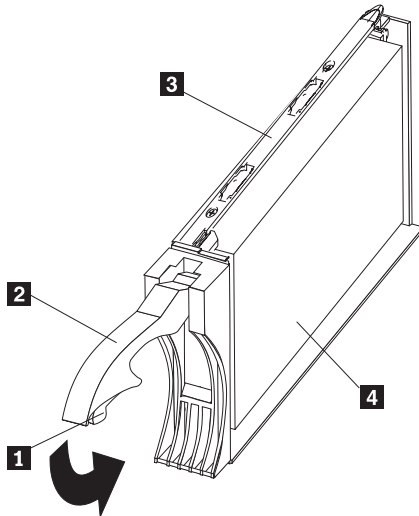

Figure 59. Releasing the drive latch
Note: The hard disk drive comes with a tray already attached. Do not attempt to detach the drive **4** from the tray **3**. See Figure 59 on page 76.
- a. Release the blue latch **1** on the drive CRU by pressing on the inside of the bottom of the tray handle. See Figure 59.